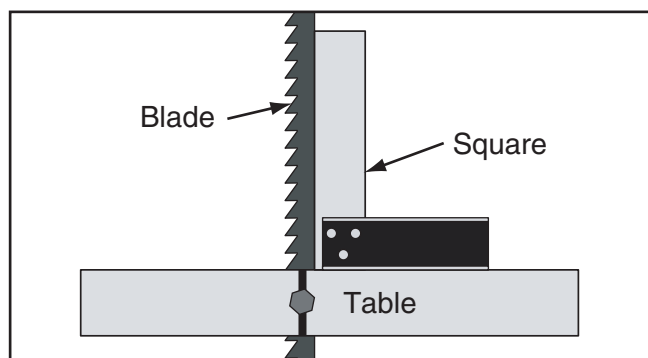

Figure 57. Squaring back of blade and table.
6. Place a square on the table and against the back of the blade, as shown in **Figure 57**. The table should be perpendicular to the back of the blade.